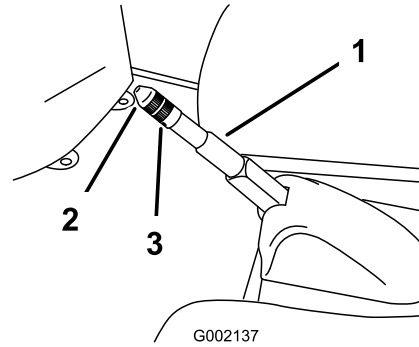

Figure 45
2. Loosen the set screw securing the knob to the parking brake lever (Figure 45).